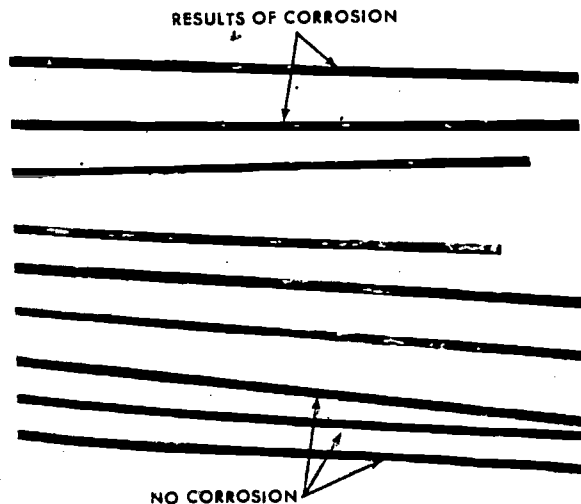

Figure 25. Comparison of corroded lines and lines not corroded.
6. **Chemical Treatment of Condensate.** When all possible losses of water and steam from a boiler plant are eliminated, chemical treatment of the condensate is instituted to remove the CO₂. Unless such losses are reduced to a minimum, the cost of this chemical treatment is excessive and corrosion cannot be inhibited. Figure 25 shows sections of return lines that have not been properly treated to prevent corrosion. The chemicals used for this purpose are alkaline amines. These alkaline amines are introduced directly into the boiler water and vaporize with the steam. The alkaline